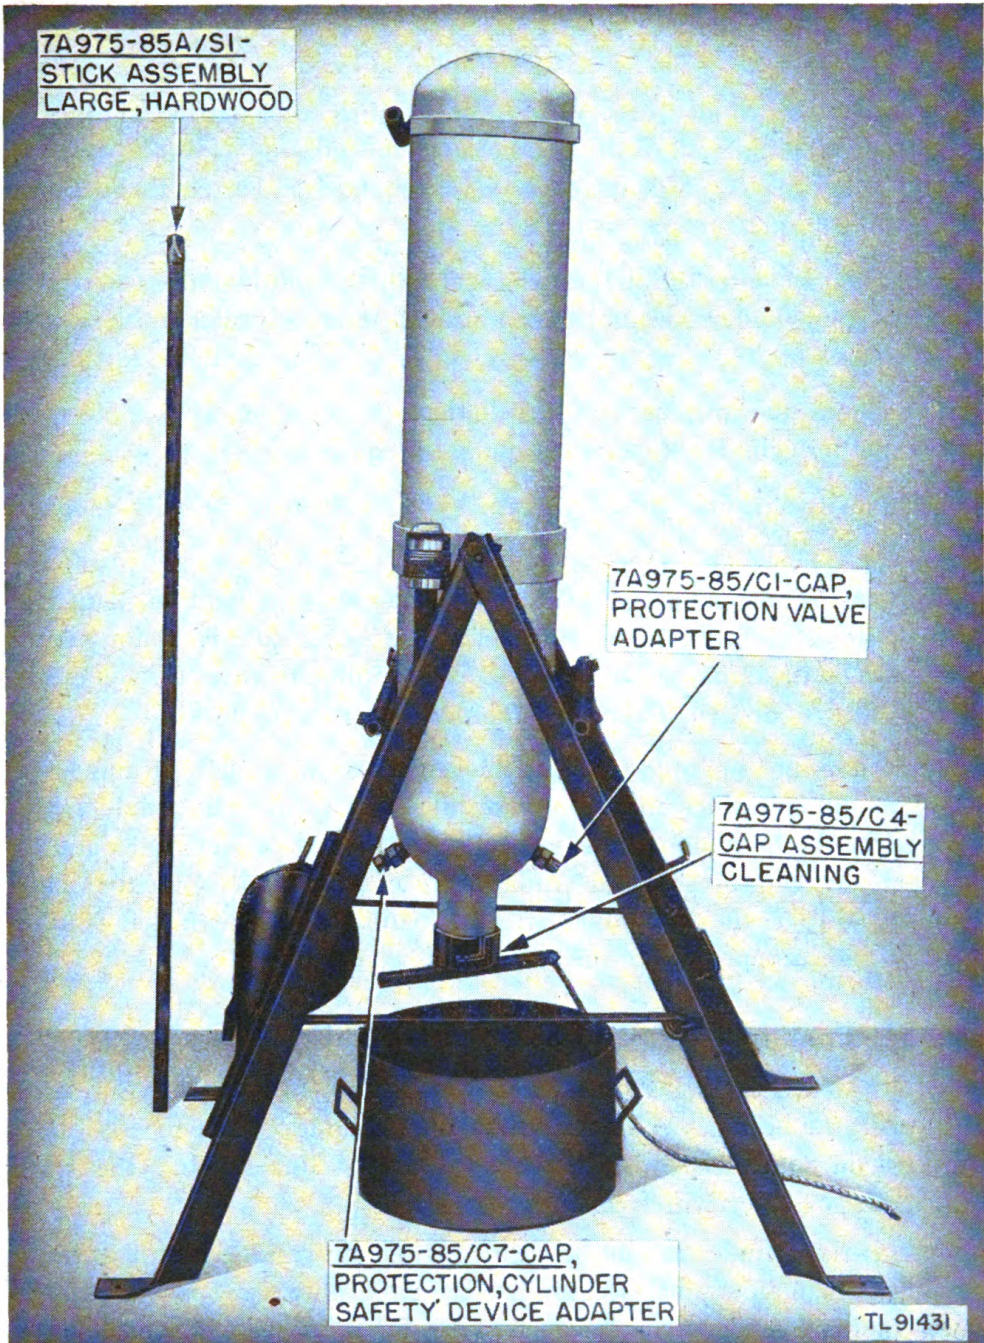

Figure 12. Generator ML-185-(\*), inverted position for emptying.
h. Invert the cylinder so that the cylinder opening is directly over the bucket. (See fig. 12.) Hook the crossbars horizontally so that they hold the cylinder in the inverted position.